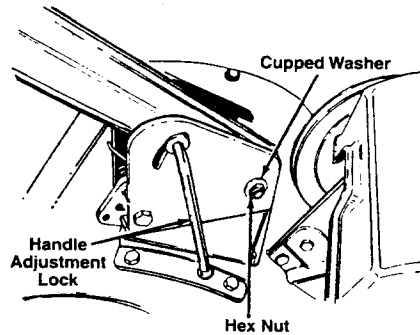

FIGURE 3
1. Tip the tiller forward so it rests on front counterweight. See figure 3.
5. Secure bottom of handle by placing cupped washer (cupped side against the pivot bracket) and hex nut on hex bolt. Do not tighten at this time. See figure 3.
6. Line up holes in handle with slots in handle pivot bracket. Insert handle adjustment lock through handle pivot bracket and handle assembly. See figure 3. Thread end of handle adjustment crank into the flange nut.